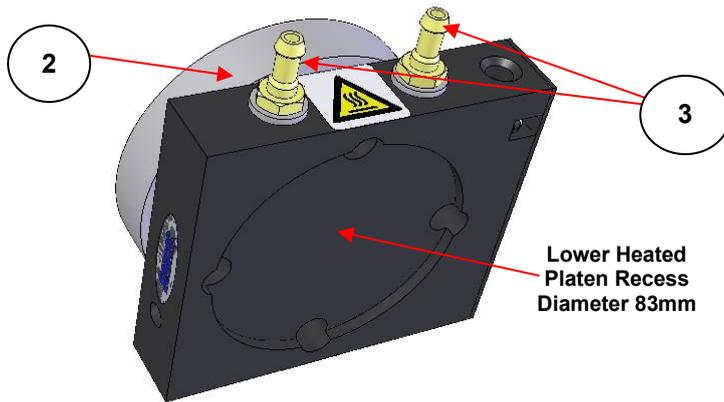

Fig 8. Lower Heated Platen Assembly Location Recess
Locate the underside recess diameter of the lower heated platen assembly (2) over the lower bolster pressing surface (11) of the press. The recess diameter is nominally 83mm (see Fig 8.).